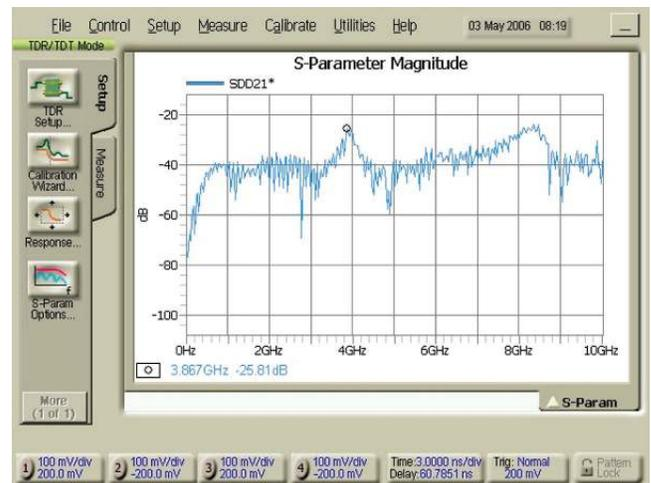

Figure 8. NEXT Frequency Domain
4 Using a marker, find and record the maximum NEXT between 10 MHz and 4500 MHz. See Figure 8.
- Using a marker, find and record the maximum NEXT between 10 MHz and 4500 MHz. See Figure 8.